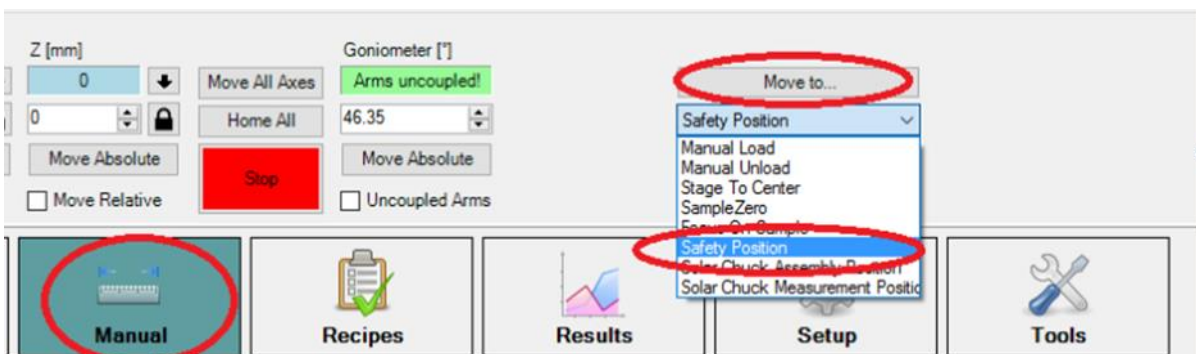

Figure. 4
7. Select “Safety position” and click on “Move to...” option. (Figure. 4)
29. Select “Safety position” and click on “Move to...” option. (Figure. 4)
30. Disable the “Vacuum” option. (Figure. 4)